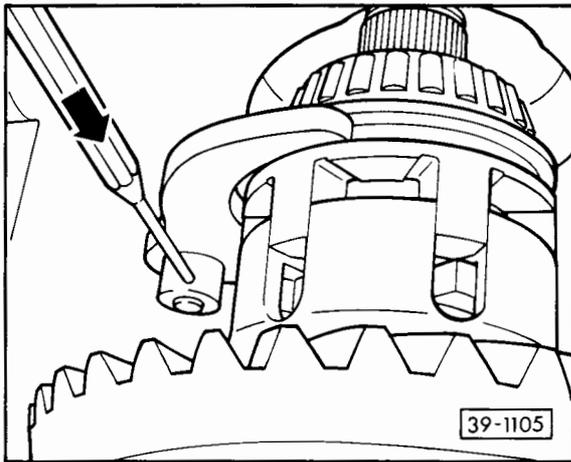

Fig. 5 Driving out spring pin for selector fork
- Driving out – Fig. 5
- Removing – Fig. 5